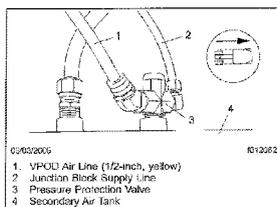

Fig. 1, Existing Location of the VPOD Air Line (typical)
3. Find the yellow, 1/2-inch diameter VPOD air line on the secondary air tank, on the left side of the vehicle. It should be connected to a pressure protection valve along with the junction block supply line. See Fig. 1.